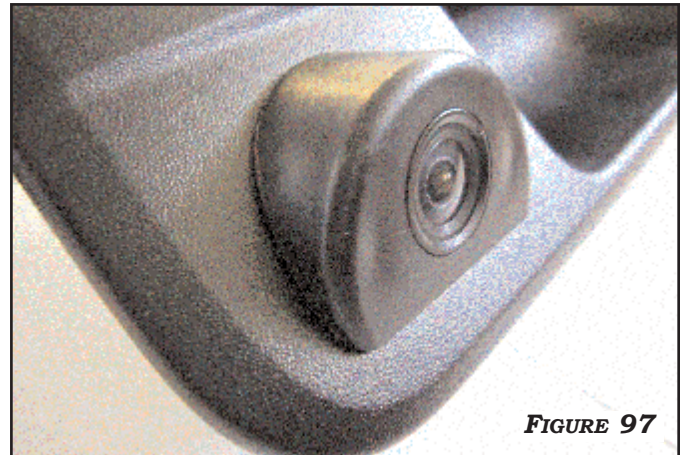

FIGURE 97
1. CLEAN THE AREA SHOWN IN **FIGURE 97** WITH ALCOHOL AND MOUNT THE CAMERA PCB TO THIS SPOT USING THE DOUBLE-SIDED TAPE. SECURE THE HARNESS WITH WIRE TIES AS SHOWN. ROUTE THE CAMERA HARNESS TO THE RIGHT OF THE TAILGATE, SECURING WITH WIRE TIES AS SHOWN IN **FIGURE 98**. **APPLY THE CONVOLUTED TUBING IN THE HARDWARE BAG TO THE TAILGATE EXTENSION HARNESS.** CONNECT THE CAMERA HARNESS TO THE TAILGATE EXTENSION HARNESS BY SCREWING THE TWO CONNECTORS TOGETHER. SECURE THE CONNECTOR TO THE TAILGATE WITH FOAM TAPE TO PREVENT RATTLES. **FIGURE 99**